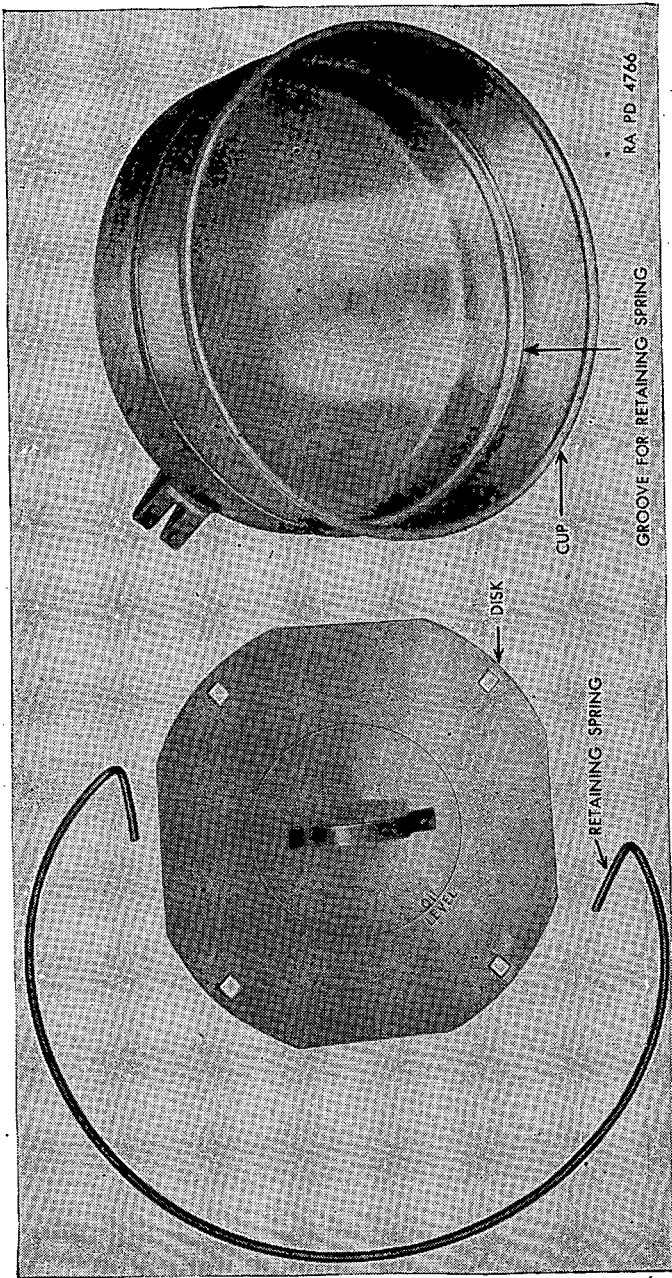

FIGURE 30.—Air cleaner parts requiring cleaning.
(4) Install throttle lever	Wrench, $\frac{1}{2}$ in., O. E. Pliers.	Place lever on carburetor throttle shaft, making certain that serrations slip into the same position as on removal. Install $\frac{3}{16}$ -in. hex-hd. nut and cotter pin.
(5) Connect fuel lines	Wrenches, $\frac{1}{2}$ in., $\frac{3}{16}$ in., $\frac{11}{16}$ in., $\frac{3}{4}$ in., O. E.	Connect fuel lines to carburetor.
(6) Install rocker arm oil scavenger line clamp.	Wrench, $\frac{3}{16}$ in., O. E.	Install $\frac{3}{16}$ -in. hex-hd. nuts on stud of carburetor holding oil line clamp.
(7) Install carburetor air horn.		See engine installation, par. 60b (14).
(8) Install inspection plate in floor of engine compartment.		See engine installation, par. 60b (15).
(9) Open fuel valves at tanks.
(10) Check all lines for leaks.
(11) Adjust carburetor		See b above for carburetor adjustment.
b. Maintenance.—After each 25-hour period of normal use, or daily, when conditions are extremely dusty, the air cleaner will be serviced as follows (fig. 30) :
- (1) Loosen thumbscrews on cup retaining rods and remove cup.
- (2) Remove cup disk and retaining spring (fig. 30).
- (3) Empty oil and dirt and thoroughly clean cup, disk, and spring (fig. 30).
- (4) Carefully fill to oil level line with SAE 10 oil and replace cup disk and retaining spring.
(5) Replace cup in cleaner and tighten retaining rod nuts.
c. Replacement.—(1) Loosen air cleaner outlet hose clamps and hose.